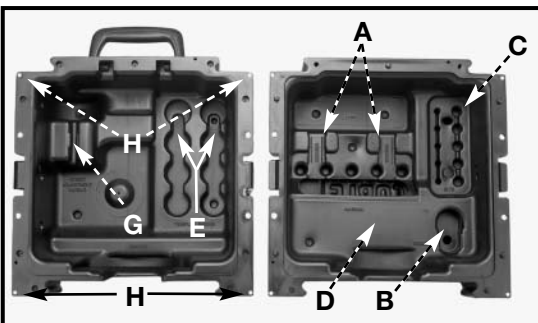
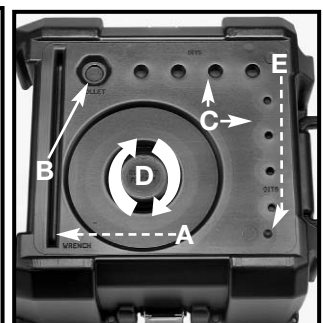

Fig. 30
Fig. 31
The case provides storage for the collet wrench at (A) Fig. 30, an extra collet at (B), and 1/4" and 1/2" bits at (C). Store the user's manual and compact disc in the slot (D). Store the templet guides in the holes (E) and the height adjustment handle in slot (G).
You can attach the inverted back half of the case to a workbench with screws through the holes (H) Fig. 30 In this configuration, storage for a wrench (A) Fig. 31, spare collet (B), and 1/4" and 1/2" router bits (C) is available. You can cut out the center of the router parking pad (D) with a sharp utility knife to allow for storage of the router with a bit installed. To store the height adjustment handle, drill a 13/32" diameter hole at (E) Fig. 31.